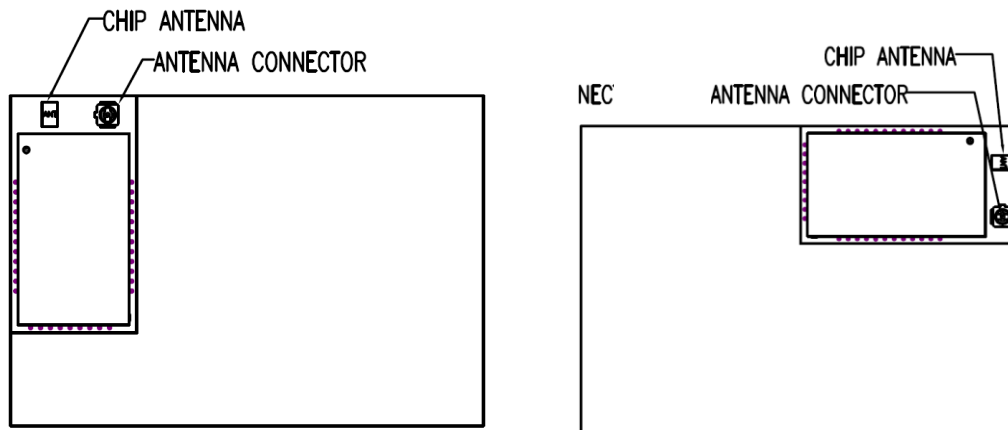
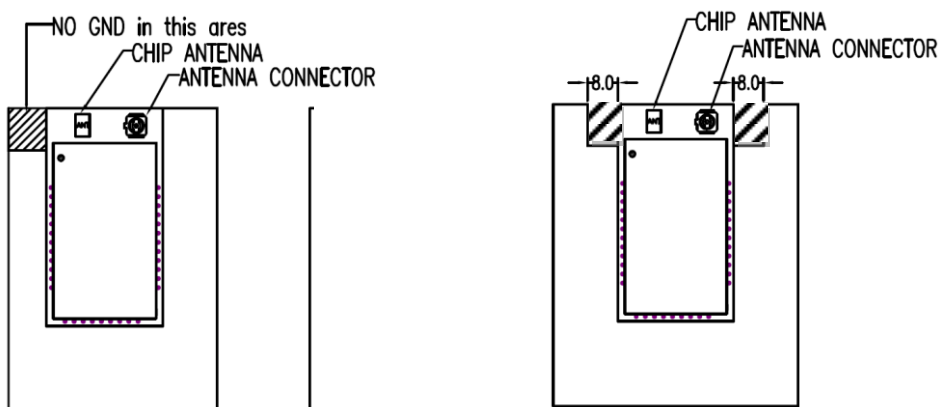

Figure 3: BT730-SA placement in the corner of host PCB.
Figure 4: BT730-SA placement in the edge (not corner) of host PCB (with modified antenna keep-out).
- For best antenna performance, place the BT730-SA module on the edge of the host PCB, preferably in the corner with the antenna facing the corner. An example shown in Figure 3.
- The antenna-keep-out defined in PCB Land Pattern and Antenna Keep-out area for BT730-SA applies when the BT730-SA is placed in the corner of the host PCB. When BT730-SA cannot be placed as such, it must be placed on the edge of the host PCB and a modified antenna keep out must be observed. This antenna keep-out modification is shown in Figure 4 (antenna keep-out is extended by 8 mm on both sides).
2. For BT730-SA (with on-board chip antenna) best antenna performance, the module BT730-SA *must* be placed on the edge of the host PCB and preferably in the corner with the antenna facing the corner (see Figure 3 in section 5.3.1). The module is placed in the corner of host PCB above the keep-out area. If the BT730-SA is not placed in corner but on edge of host PCB, the antenna keep-out area must be modified (see Figure 4 in section 5.3.1).